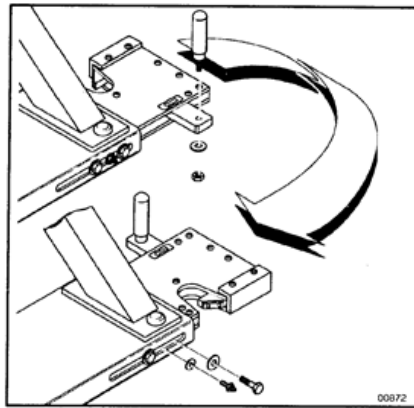

Figure 5-2 Rear Base Extension (Docking Clamp) Reversal.
1. With a 9/16" wrench remove the four hex head screws securing the docking hitch to the TEF Modular Component. (See Figure 5-2.)
Note: Remember to flip the rear base extension (Docking Clamp) over before proceeding. See Figure 5-2 for orientation.